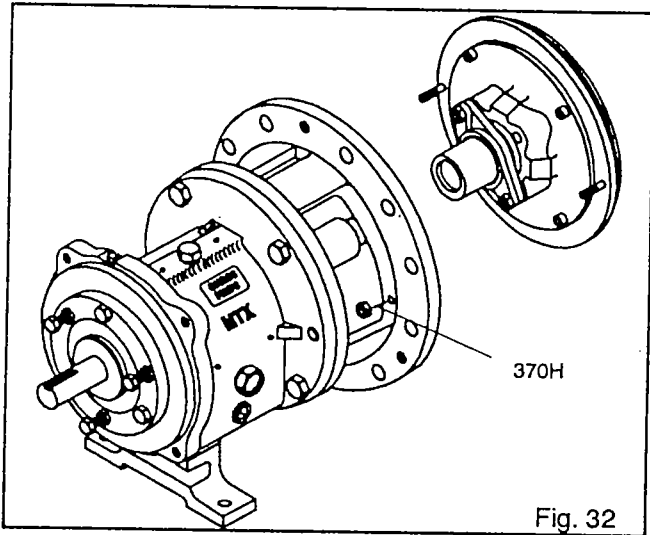

Fig. 32
2. Remove dynamic seal assembly (Fig. 32).